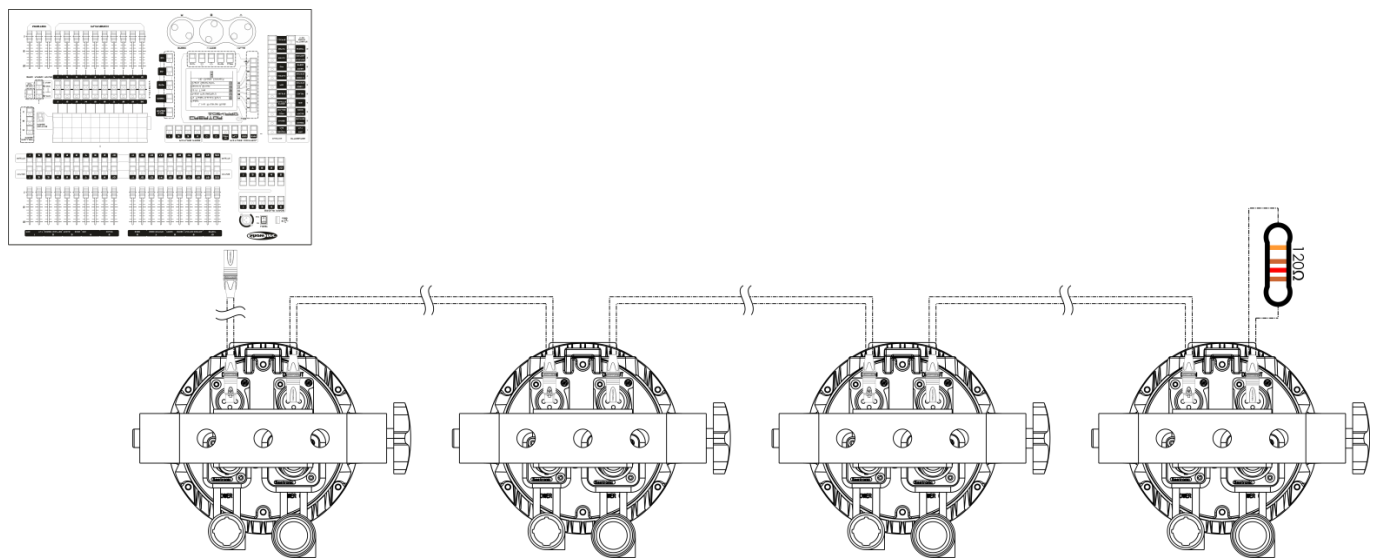

Fig. 04
- 04) Link the units as shown in fig. 04. Connect a light controller to the first unit's DMX "in" socket, using a DMX cable. Connect the first unit's "out" socket with the second unit's "in" socket, using a DMX cable. Link the second, third and fourth units.